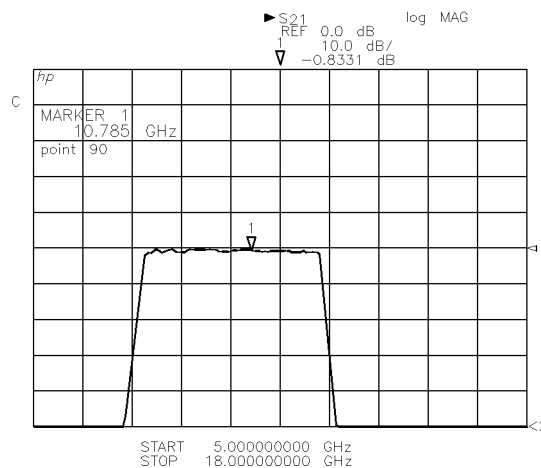

Figure 2-9. Insertion Loss: S_{21} LOG MAG
- b. Use the RPG knob to position the marker at any point on the trace. The measured Insertion Loss, magnitude value at the marker position, is displayed above the graticule. The frequency value is displayed in the active function area. See Figure 2-9 for an example of a typical display.